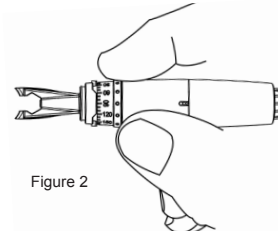

Figure 2
6. Guide the RoboMarker directly towards the patient's eye, until the RoboTip marking edges are approximately 1 inch (3 cm) away from the cornea. Gently rest your index finger onto the proximal rim of the rotary dial to prevent any further rotary motion. (See Figure 2 below)